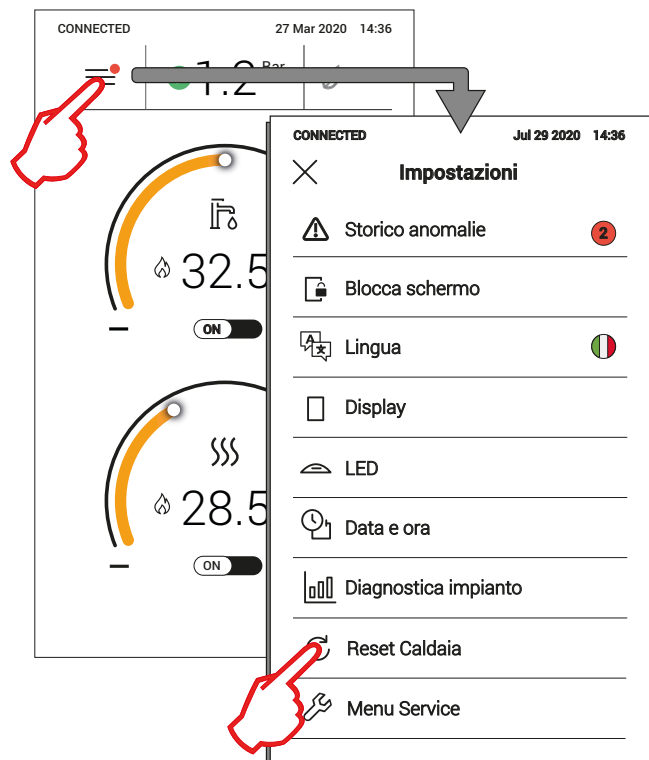

fig. 34
- 1 - Touching [RESET] when a screen similar to that shown in fig. 34 appears.